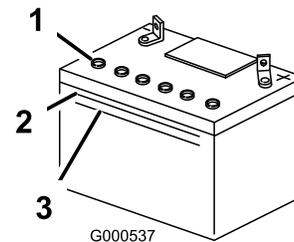

Figure 43
1. Look at the side of the battery. The electrolyte must be up to the **upper** line (Figure 43). Do not allow the electrolyte to fall below the Lower line (Figure 43).
- Remove the vent caps from the battery (Figure 43).
- Slowly pour distilled water into each battery cell until the electrolyte level is up to the upper line (Figure 43) on the battery case.
- Wait 5 to 10 minutes after filling the battery cells. Add distilled water, if necessary, until the electrolyte level is up to the upper line (Figure 43) on the battery case.